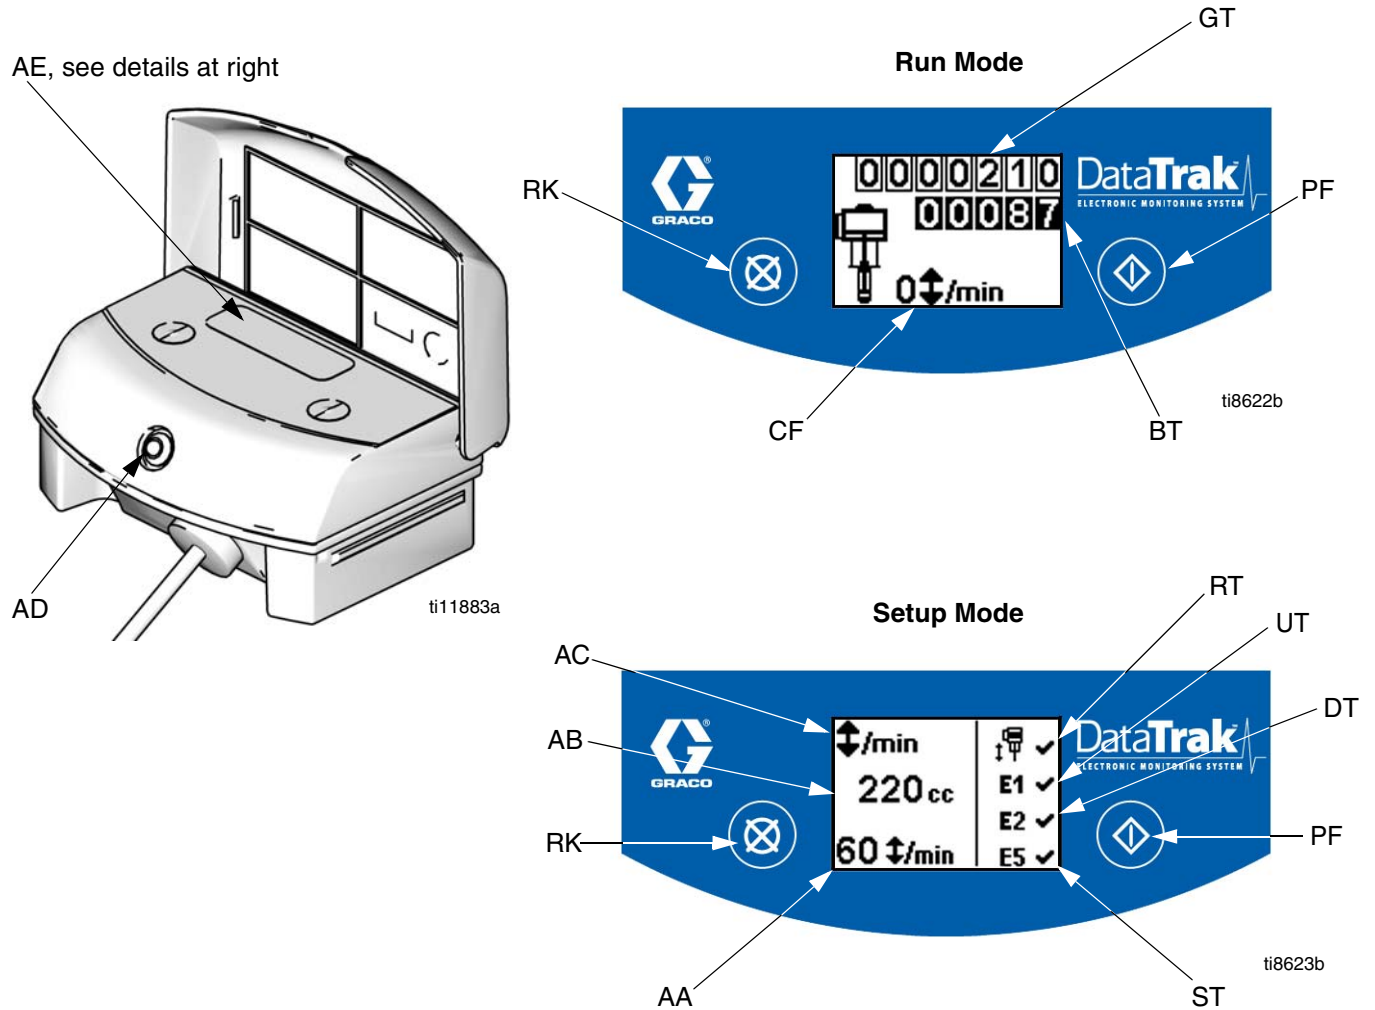

FIG. 8. DataTrak Controls and Indicators
Key for FIG. 8
1. See FIG. 8. Press and hold  for 5 seconds until Setup menu appears.
NOTE: When runaway, E1, E2, and E5 error options are enabled, a ✓ will appear on the setup screen. See FIG. 8.
1. See FIG. 8. If pump runaway occurs, the runaway solenoid will actuate, stopping the pump. The LED (AD) will flash and the display (AE) will indicate a runaway condition (see Table 1). The display will cycle through six instruction screens.
2. Runaway Screens 1 and 2: To reset the runaway solenoid, close the master air valve (E). Wait for air to completely bleed off the air motor.
3. Runaway Screens 3 and 4: After the air is bled off, push the solenoid release button (J) down to reset the air valve. The button will pop back up when the air valve is repressurized.
5. Open master air valve (E) to restart pump.
NOTE: To disable runaway monitoring, go to setup mode and set runaway value to 0 (zero) or toggle (RT) off  (see FIG. 8).
1. See FIG. 8. To enter Prime/Flush mode, press any key to wake up the display, then press . The Prime/Flush symbol will appear in the display and
See FIG. 8. The last digit of the batch totalizer (BT) represents tenths of gallons or liters. To reset the totalizer, press any key to wake up the display, then press and hold  for 3 seconds.
See FIG. 8. The display (AE) will turn off after 1 minute of inactivity in Run mode or 3 minutes in Setup mode. Press any key to wake up the display.
DataTrak can diagnose several problems with the pump. When the monitor detects a problem, the LED (AD, FIG. 8) will flash and a diagnostic code will appear on the display. See Table 1.